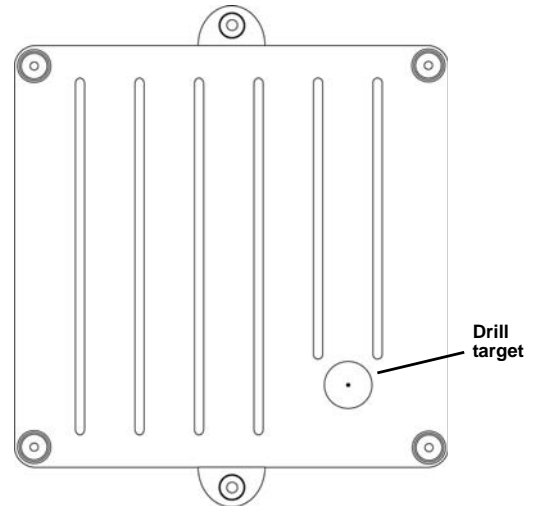

Figure 2 ACC650 enclosure back drill target
- If installing the liquid tight connector on the back of the ACC650 enclosure, use the drill target shown in Figure 2.